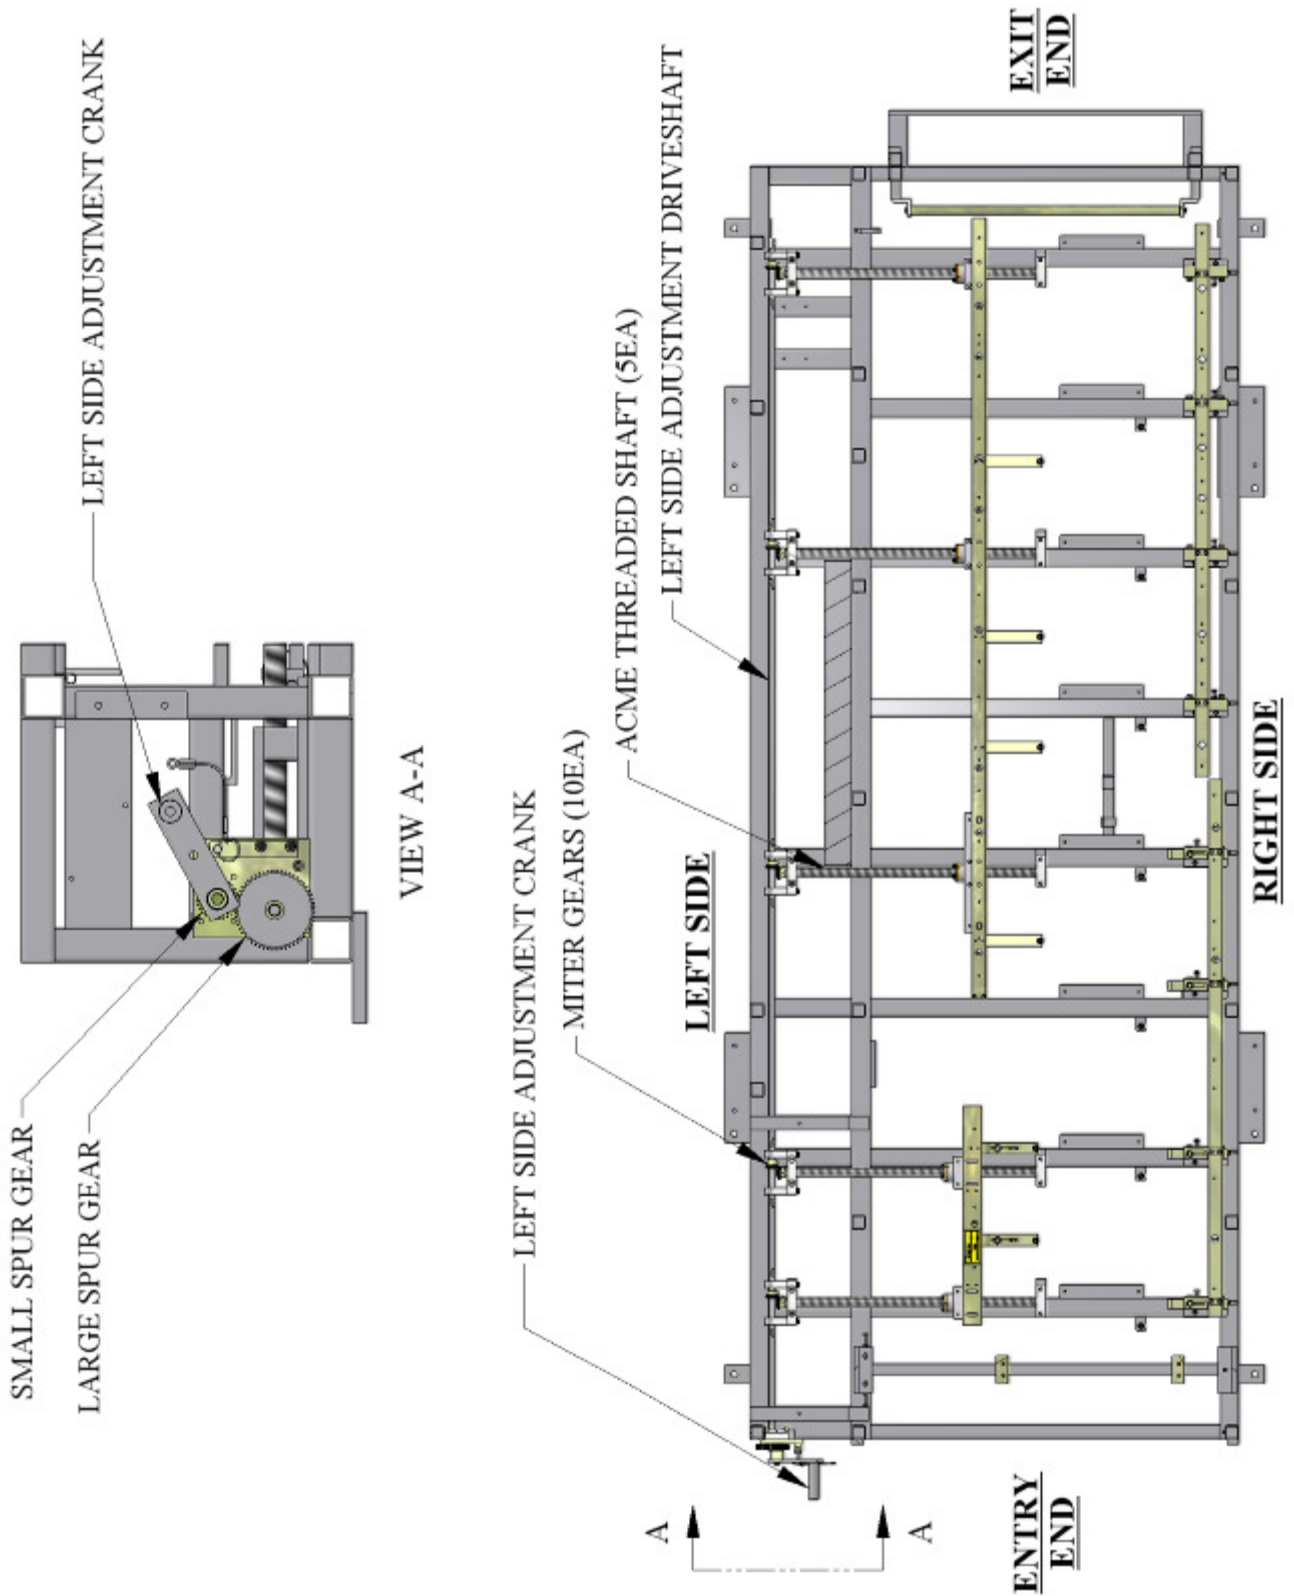

Figure 4: Acme Shafts and Left Side Adjustment
10. Lubricate 5 Acme Shafts (Figure 4 on page 8) with Spray Lube as needed.
11. Lubricate Mitre-Gears (Figure 4 on page 8) on ends of Acme Shafts with Spray Lube as needed.